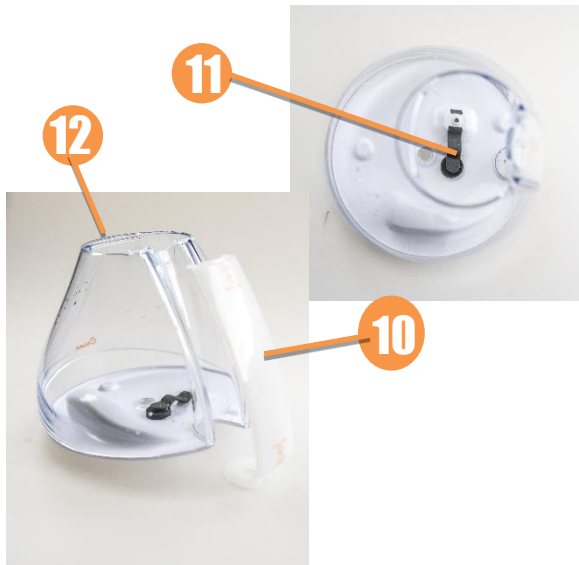

Fig. 3
4. **WATER TANK DISK** (page 4, Fig. 3 #13)-Place the Water Tank Disk, with disk lip down, securely onto water tank opening.
5. **MIST NOZZLE** (page 4, Fig. 3 #14) -Place the mist nozzle securely onto the water tank disk. Direct the mist output by turning the mist nozzle to the direction you want the mist to emit.
6. **CONNECT AC ADAPTOR CORD into the Plug Port** (page 4, Fig. 3 #15). Plug the power cord into a wall socket and turn on the unit by using the Power Button. **PRESS POWER BUTTON** (page 4, Fig. 1 #6) 1x for low, 2x for medium, 3x for high and 4x to power off.